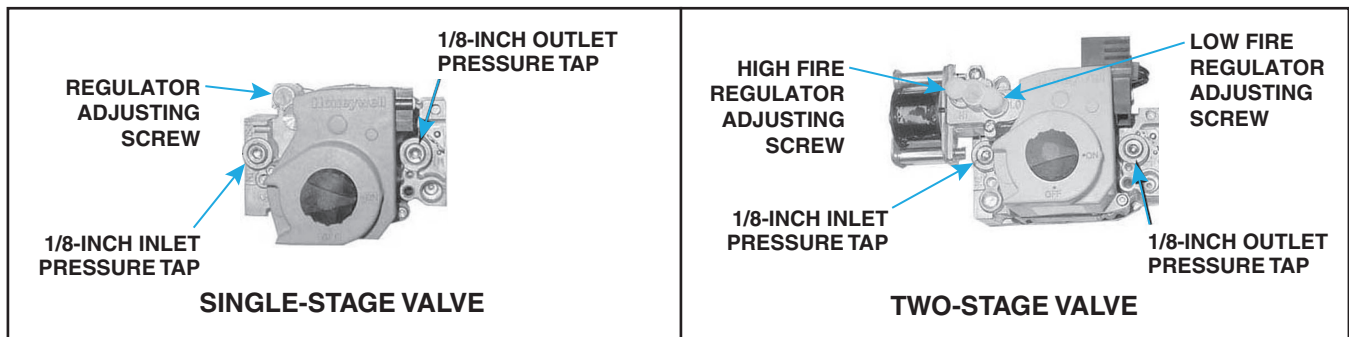

Figure 33. Combination Gas Valve Test Connections
1. Locate 1/8-inch FPT INLET pressure tap on combination gas valve (see Figure 33).
2. With field-installed manual valve closed to prevent flow to gas valve, connect manometer to 1/8-inch FPT INLET pressure tap (see Figure 33).